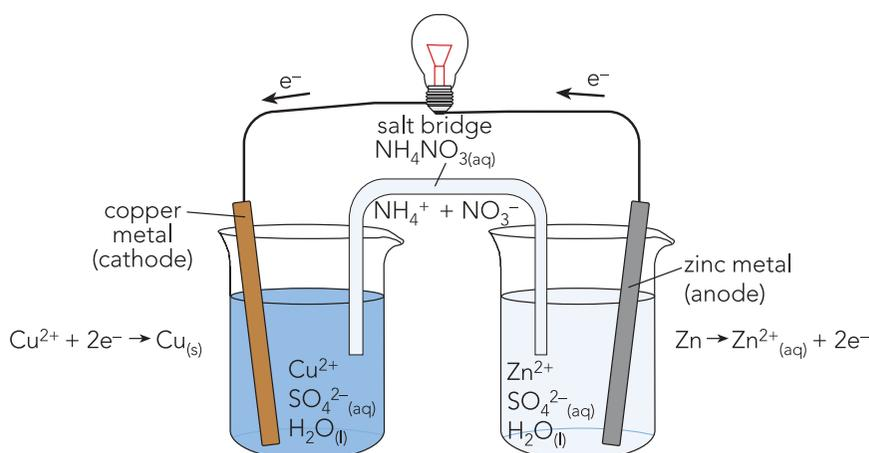

Figure 3.2 A laboratory version of the Daniell cell consisting of two half-cells, Zn/Zn2+ and Cu/Cu2+.
Refer to the Daniell cell in Figure 3.2 and answer the following.
e.g. for Daniell cell shown in Figure 3.2.